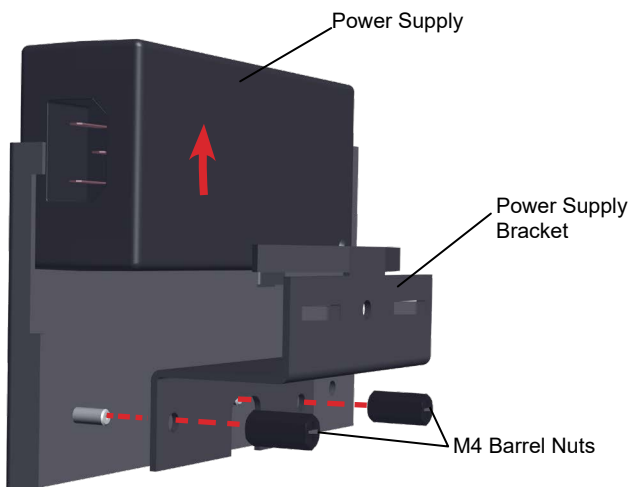

Figure 33. Remove bracket and power supply from long rack ear
2. Disconnect the power supply supporting bracket from the longer (R) rack mount bracket. Reserve the barrel nuts for reattachment to the wall bracket (Figure 33).